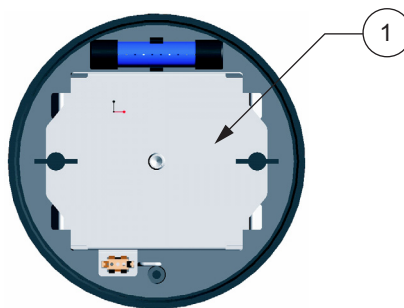

Figure 14 940 Flow Meter Battery Pack
4. Place the battery pack (Cat. No. 4150-26) inside the battery compartment (Figure 14).